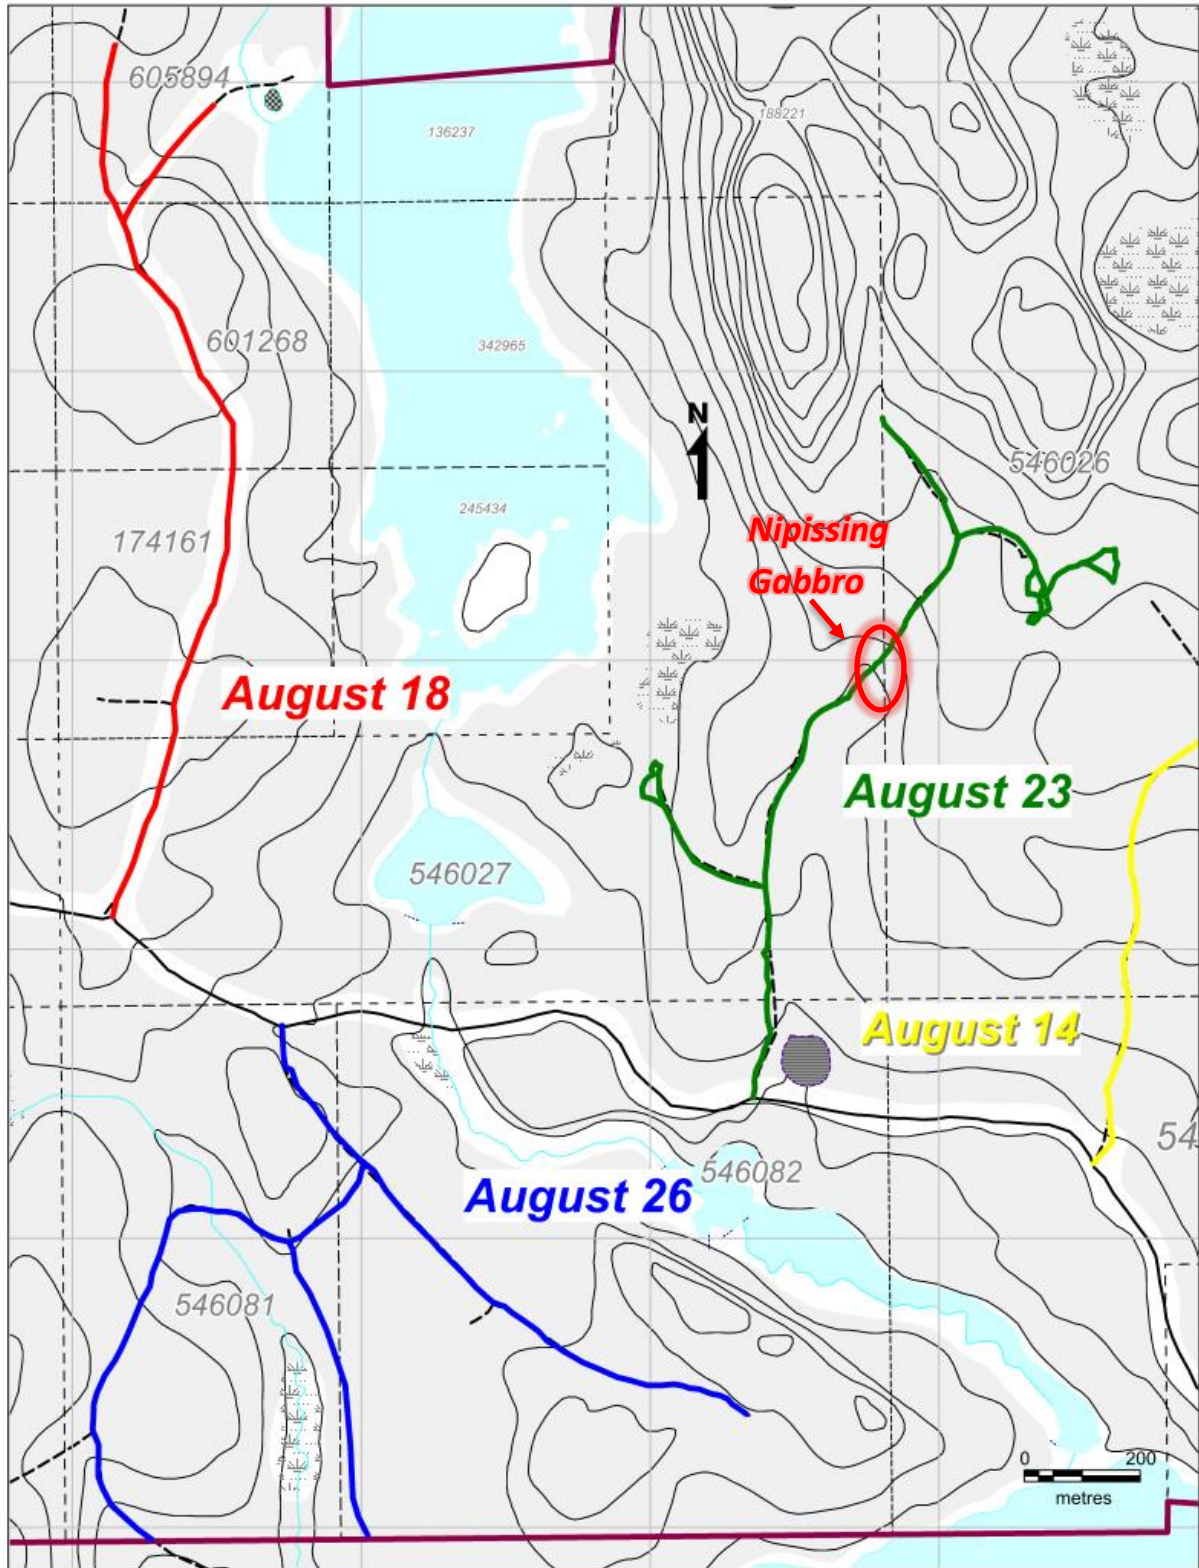

Figure 7: BeepMat Traverses and Anomaly Areas
- On the August 23 traverse anomalies were detected at waypoints 2020-521 to 2020-526 (Fig. 7 and Table 2). These anomalies correspond to a magnetic high on the airborne survey which has direct correlation with the magnetic signature of the Nipissing gabbro to the north (Geology Map, back pocket).